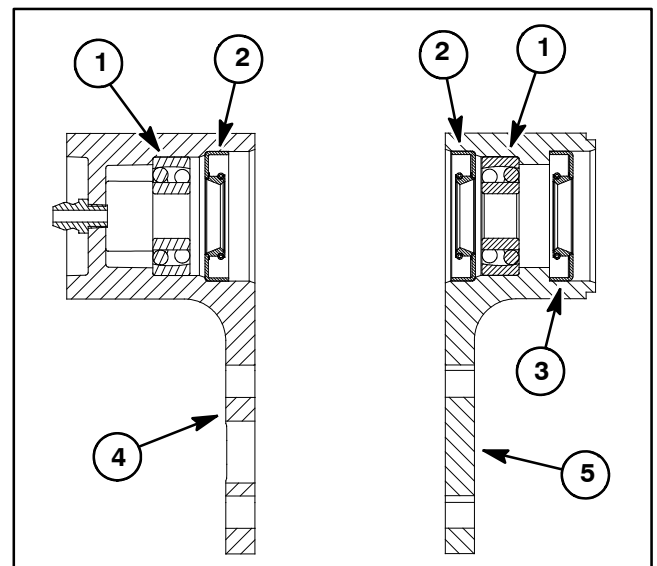

Figure 46
1. If seals or bearings were removed from brush bearing housings, install new components noting proper orientation as shown in Figure 46.
C. Install grease seals so that seal lips are positioned toward the brush location as shown in Fig. 46. Press seals into housing so that seal contacts bore shoulder.